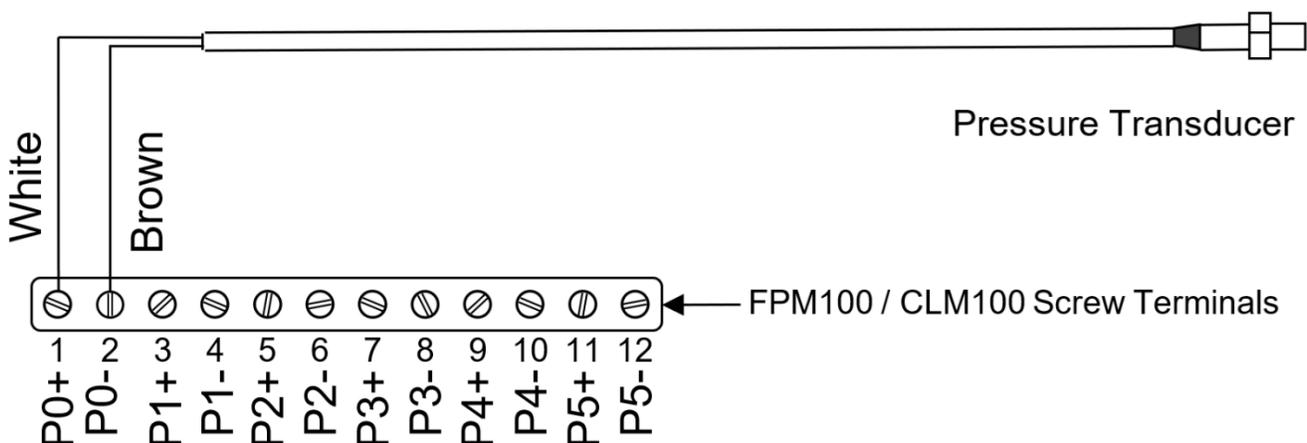

Figure 1 – Pressure Transducer Connection Diagram
Please follow these instructions to connect the PT-V-0-1BAR-01 pressure transducer to the NMEA 2000® network via a Maretron FPM100 (Fluid Pressure Monitor) or the CLM100 (Current Loop Monitor). The wiring diagram appears in Figure 1 below. The diagram shows a connection to channel #0, but connections to other channels are similar.
3. Connect the two wires of the pressure transducer to a free pressure monitoring channel. Connect the white wire from the pressure transducer to the positive (+) terminal of the channel and connect the brown wire from the pressure transducer to the negative (-) terminal of the channel. The example in Figure 1 shows the pressure transducer connected to switch channel 0 with the white wire connected to "P0+", and the brown wire connected to "P0-". Pressure transducers of "Gauge" type allow atmospheric pressure to the sensor through the connecting cable. Take care to not allow the end of the cable with the tinned wire leads to be exposed to moisture, or the sensor may become damaged due to corrosion. If the area where the end of the cable is located might have moisture present, the use of 1) a waterproof junction box with cable glands and a PTFE vent or 2) a desiccant cartridge is highly recommended. Running the cable through a cable gland will not affect its ability to allow atmospheric pressure through the cable into the sensor.